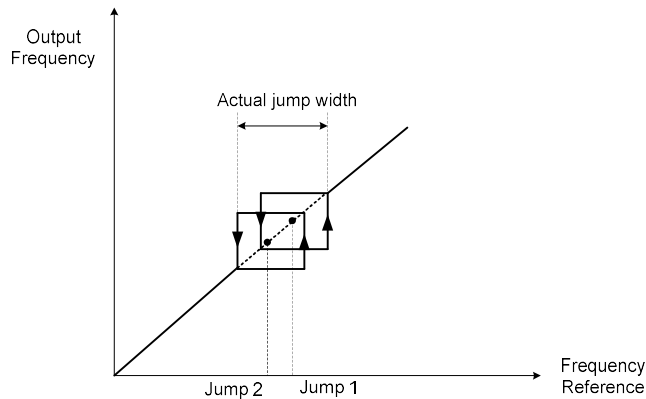

Figure 4.3.114 Overlapping Jump Frequencies
- When the configured jump speeds overlap, the total is treated as a combined jump frequency range. Refer to Figure 4.3.114.